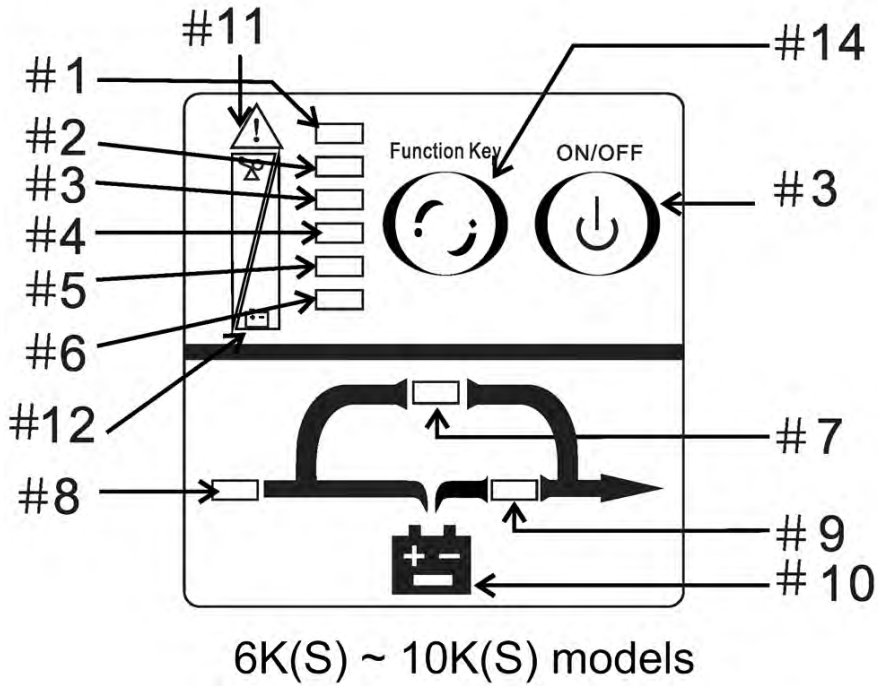

Figure 7: LED-type screens of 6 and 10 kVA models
Table 5: Key to Figure 7
* According to the LED numbering used in Figure 6 and Figure 7.